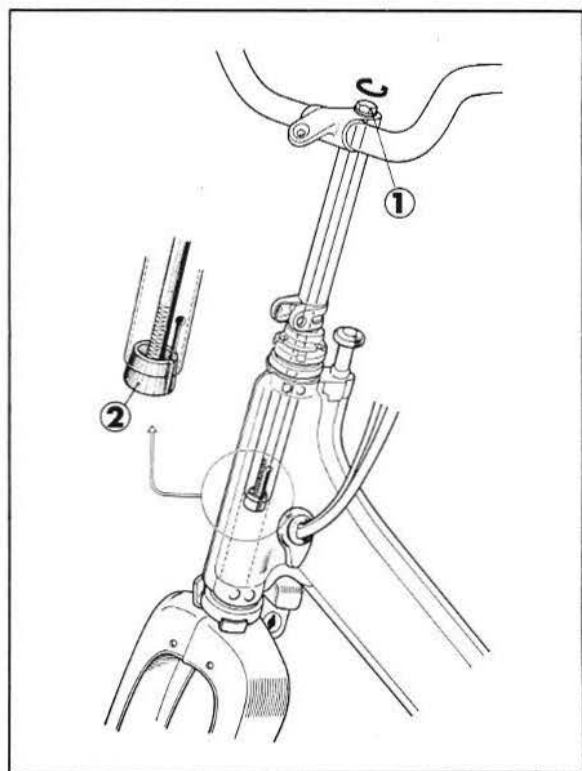

Fig. 4-12 ① Handle set bolt ② Lock nut
4. Loosen handle set bolt and tap lightly to remove the handle. (Fig. 4-12)